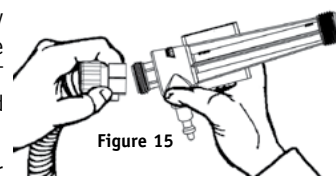

Figure 15
4. Firmly tighten hose connector by hand (Figure 15).